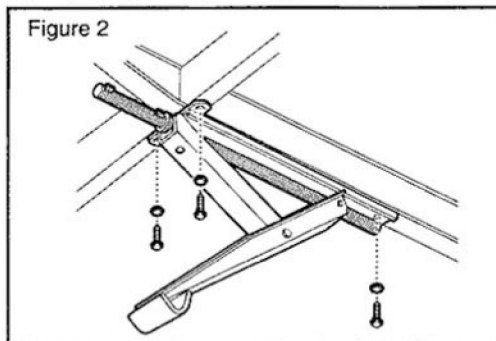

Figure 2
STEP 2. With the stabilizers in the desired locations, use the mounting plates as a template. Mark the mounting hole locations on the trailer frame with a center punch. Remove stabilizers. Drill (3 each) 13/64" holes in the trailer frame, two at the wide mounting plate location and one in the crossmember for the narrow mounting plate for each stabilizer (Figure 2).